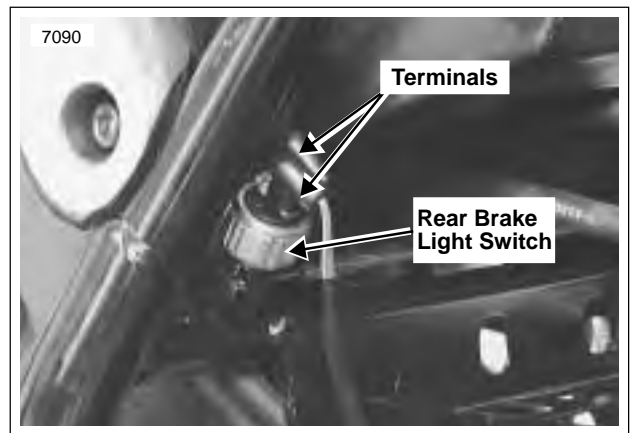

Figure 2-51. Rear Brake Light Switch
8. See Figure 2-51. Disconnect two wires from rear brake light switch.
14. See Figure 2-51. Remove rear brake light switch from brake line.
13. See Figure 2-51. Connect rear brake light switch wires to rear brake light switch.